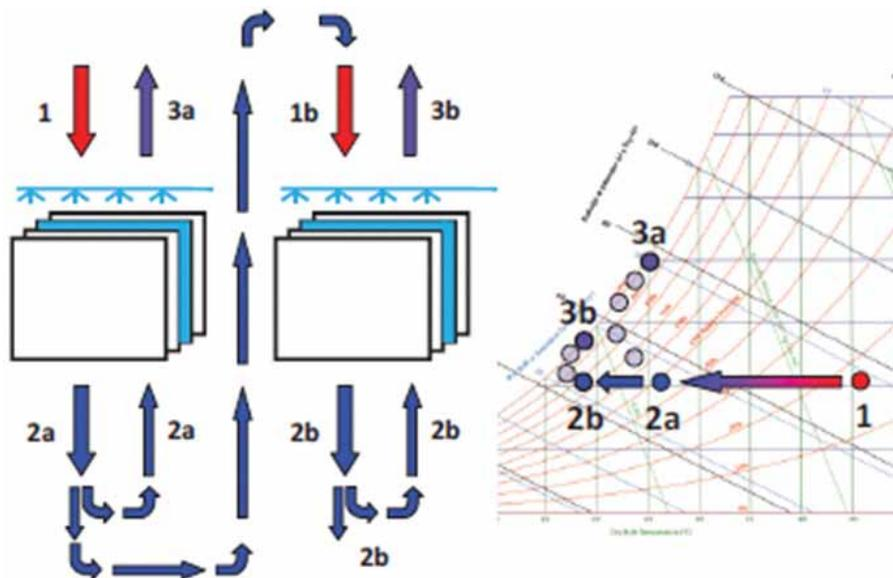

Figure 4: Schematics and psychrometric process of D-IEC
The dew point indirect evaporative cooler was developed to decrease the primary air temperature near the limit of the dew point (DP) temperature of the primary air at the inlet. The D-IEC consists in multiple stages of R-IEC equipment. The working principle of D-IEC equipment, with two stages of R-IEC is presented in Figure 4. The warm primary air (1) is flowing inside the dry channels and transfers heat through the heat surface to the wet channels. At outlet, the primary air (2a) will have a lower temperature. A part of the outlet primary air of the first stage is used as secondary air (always much cooler than that of basic IEC) of the first stage being introduced in the wet channels. The rest of the outlet primary air of the first stage is used as primary air of the second stage. The working process of the primary air (1-2a-2b) is realized at constant moisture and can approach the DP temperature of the primary air at the inlet on the first stage. The working process of the secondary air in all stages are (2a-3a), (2b-3b), etc.,